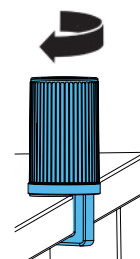

Fig. 4
- ⇒ Mount the base with the universal clamp on the back or side of the work table (Fig. 4).